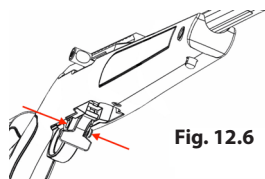

Fig. 12.6
- Move the safety into a central position and assemble the barrel and receiver into the stock. (Fig. 12.6). (NOTE: The receiver must insert slightly ahead of its normal position and moved rearward as it's lowered into place.)